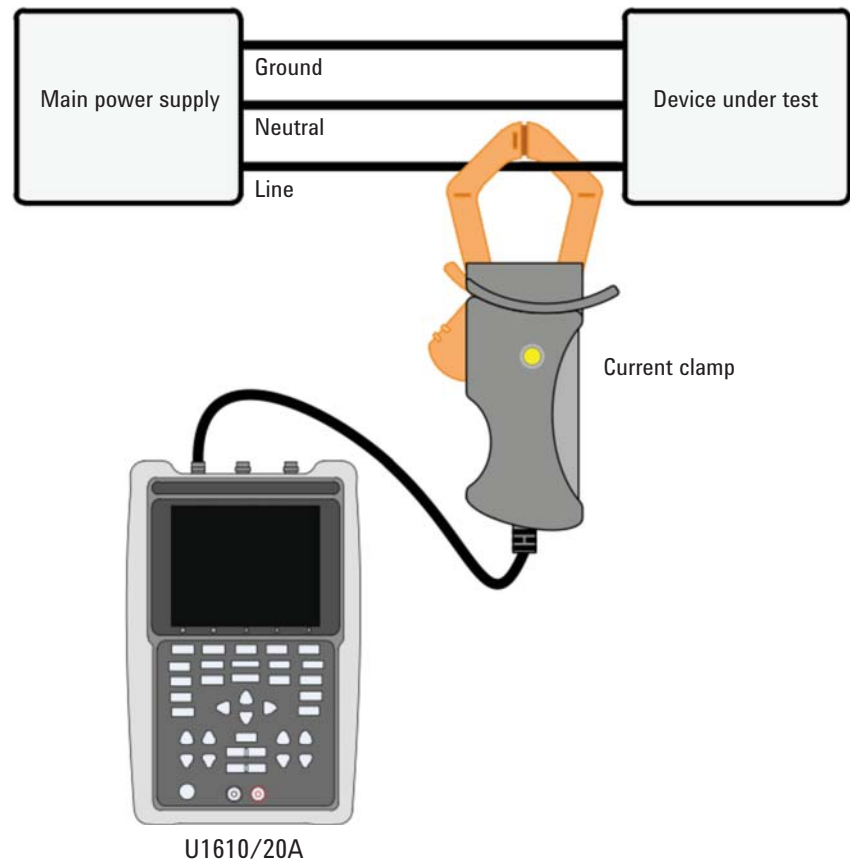

Figure 6. Setup to analyze line current harmonics
1. Prepare the setup as shown in Figure 6.